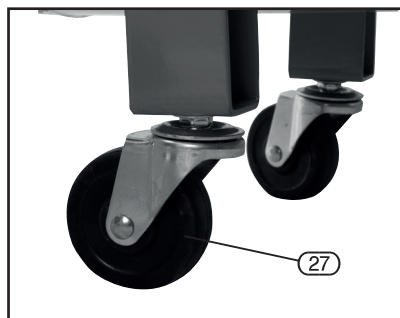

FIG.2
8.2 ASSEMBLING THE CASTOR - FIG. 2